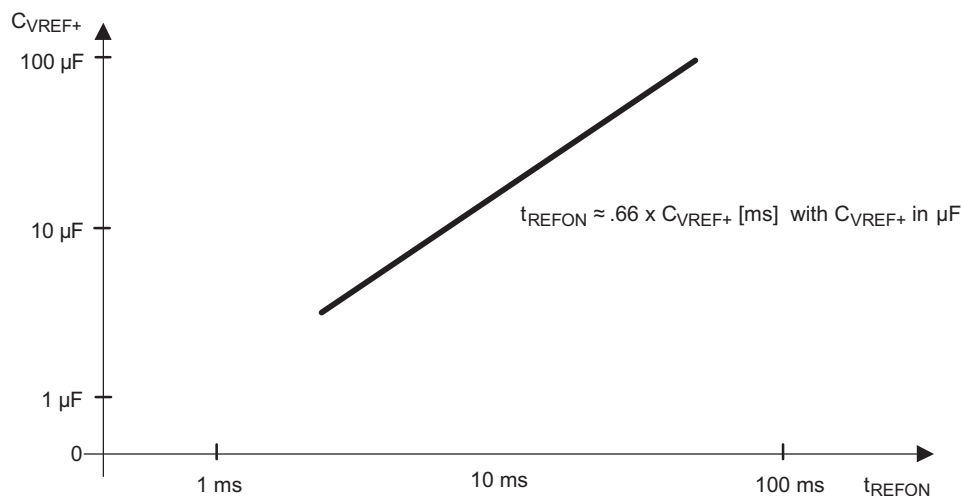

Figure 39. Typical Settling Time of Internal Reference tREFON vs External Capacitor on VREF+
| t REFON     | Settle time of internal reference voltage (see Figure 39) (4) (2)        | I VREF+ = 0.5 mA, C VREF+ = 10 μF,V REF+ = 1.5 V, V AVCC = 2.2 V                         | 2.2 V           |               |      | 17   | ms     |   |